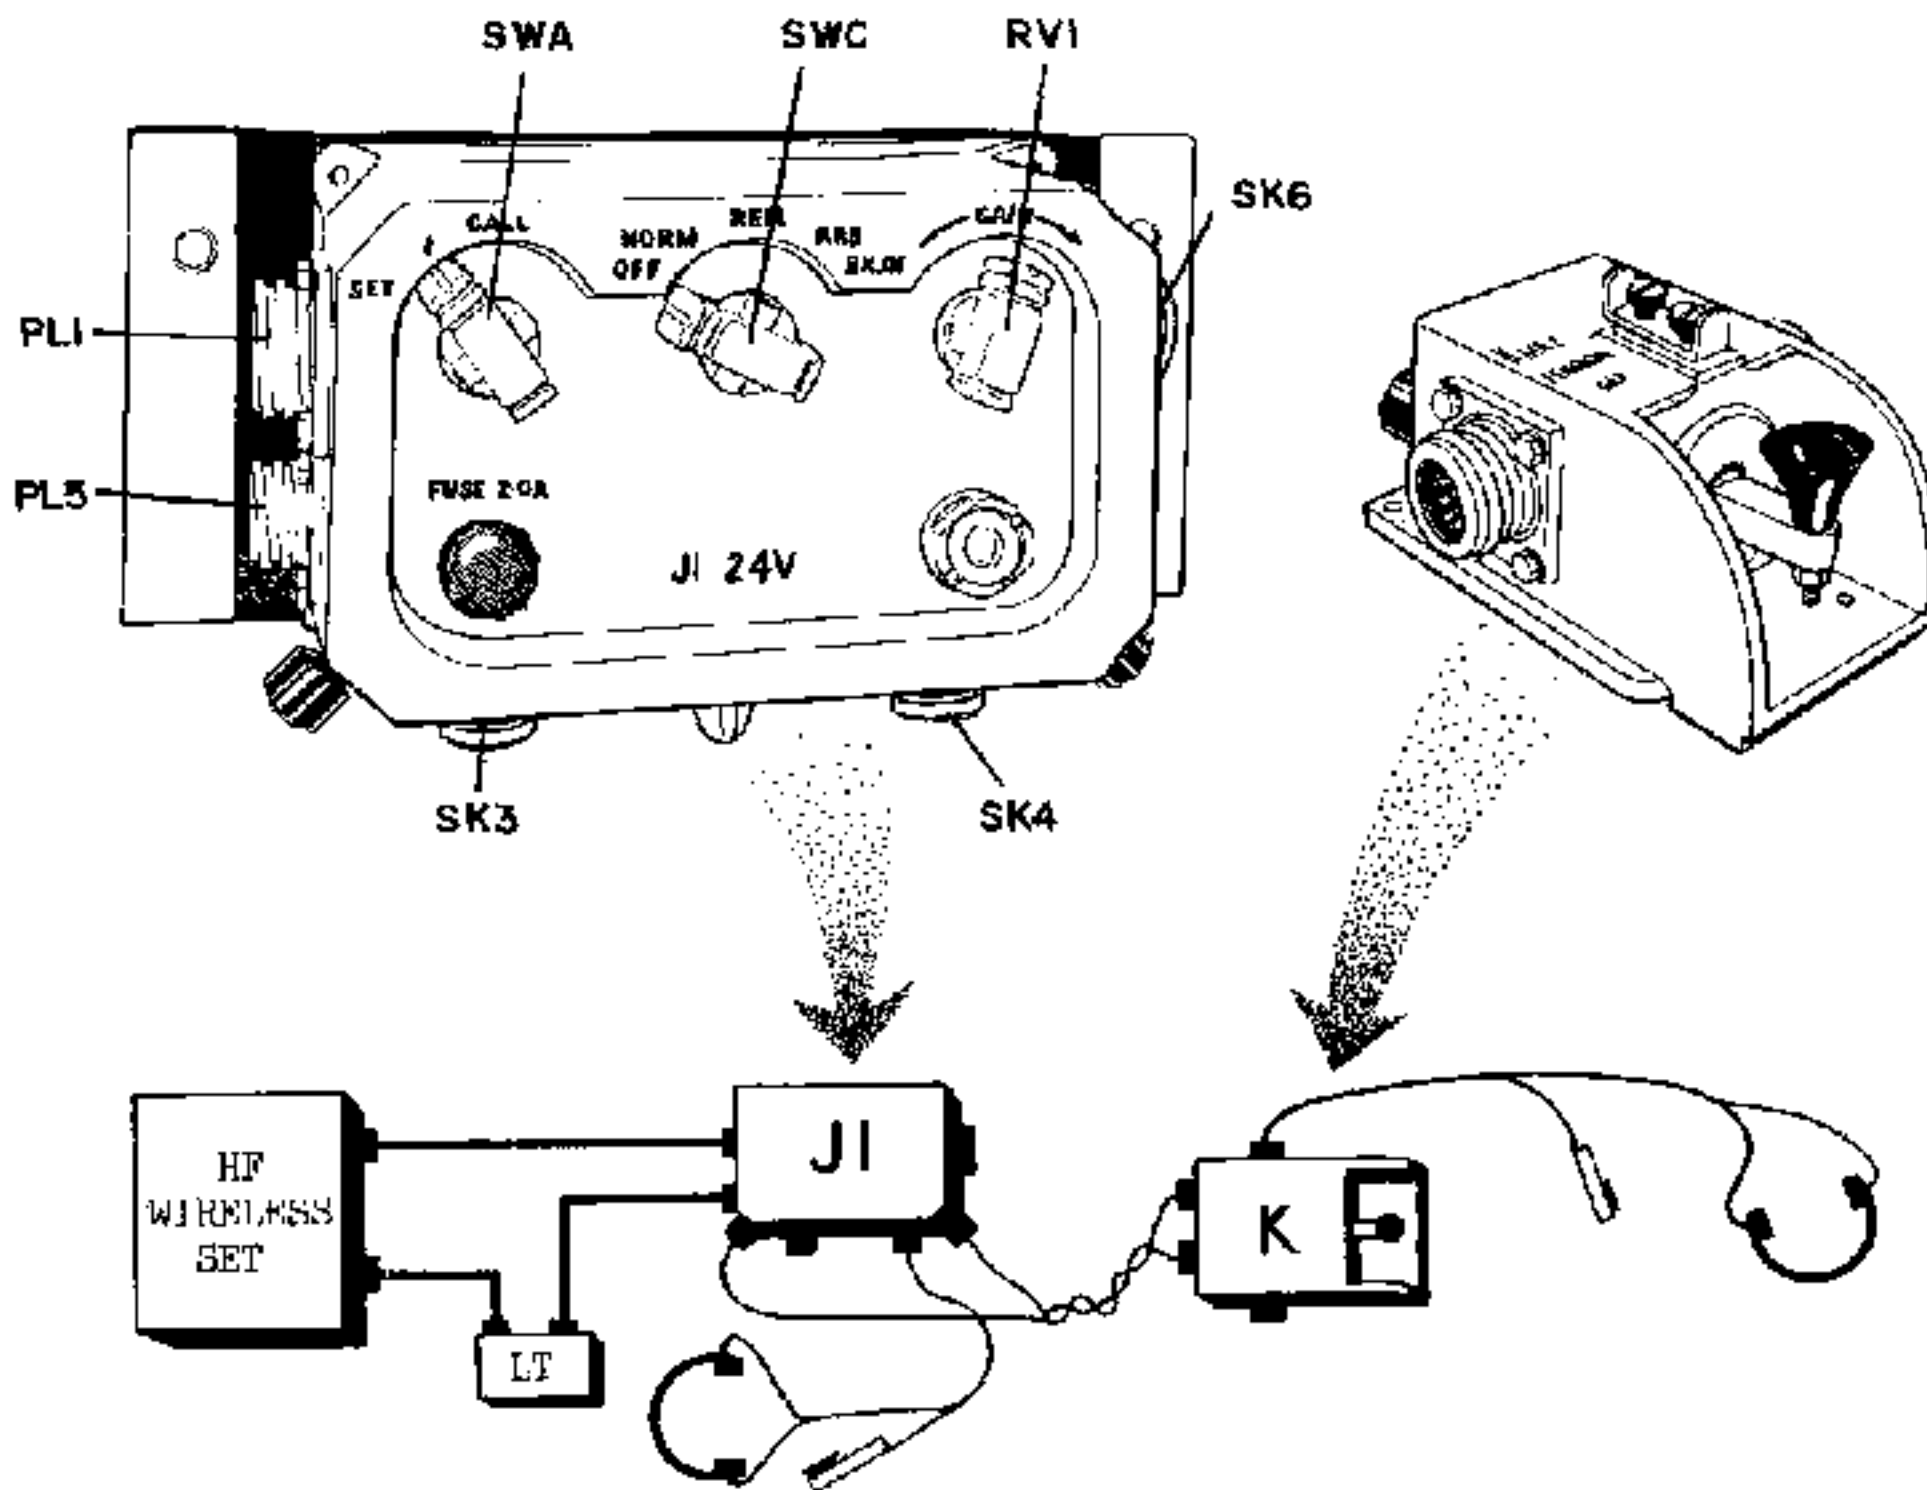

FIG 23
(Fig 23)
- (b) Referring to Fig 23, turn switch SWA on junction box 'J1' to 'I'.
- (b) Referring to Fig 23, turn switch SWA on box 'J1' to SET, and switch SWC to NORMAL. The remote control cable terminals are now disconnected.
- (b) Referring to Fig 23, turn switch SWA on junction box 'J1' to SET, and switch SWC to REMOTE. The remote handset is connected direct to the wireless set, which is now controlled from the remote point. The headset attached to box 'J1' is still connected, and can overhear the conversation. If switch SWA on junction box 'J1' is turned to '1' the remote operator is disconnected from the set and placed on IC.